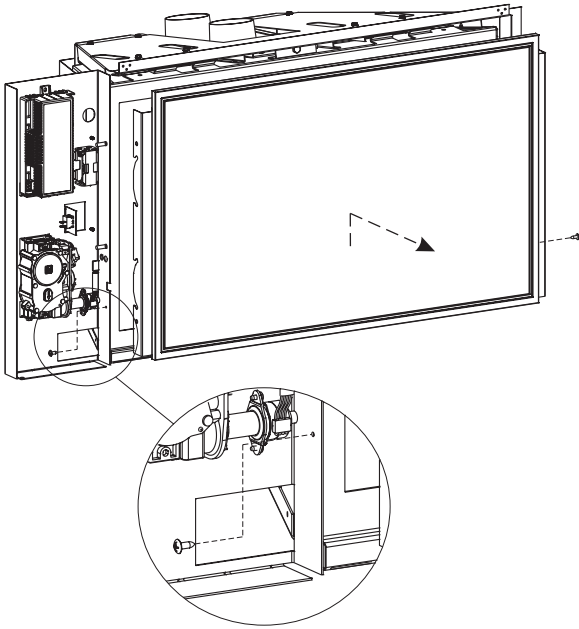

Figure 12
1. Remove the two screws securing the screen assembly to the firebox. Lift the assembly up and pull out to remove it from the firebox. **See Figure 12.**